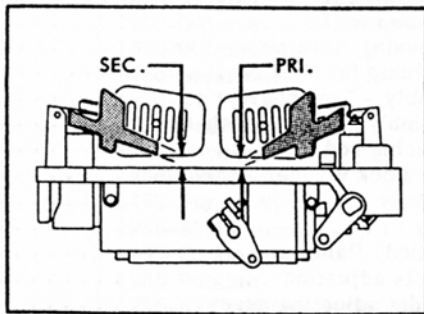

Figure 1
IV. FLOAT LEVEL ADJUSTMENT. (See Figure 1.)
- b. Hold air horn upside down with floats in place and gasket removed. Measure float heights at both locations shown in figure 1.